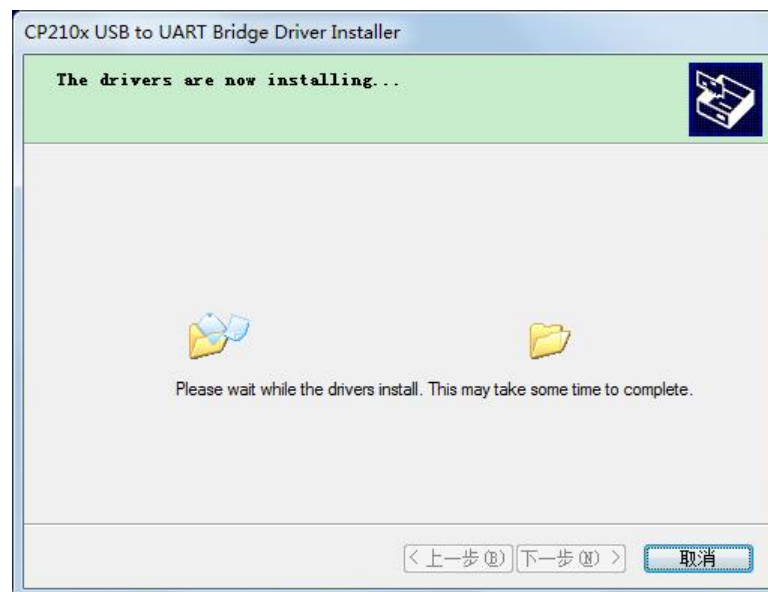

Figure 4-8 Installing window
8. During installation, the installation progress interface will appear, please wait for the installation to complete, as shown in Fig. 4-8.